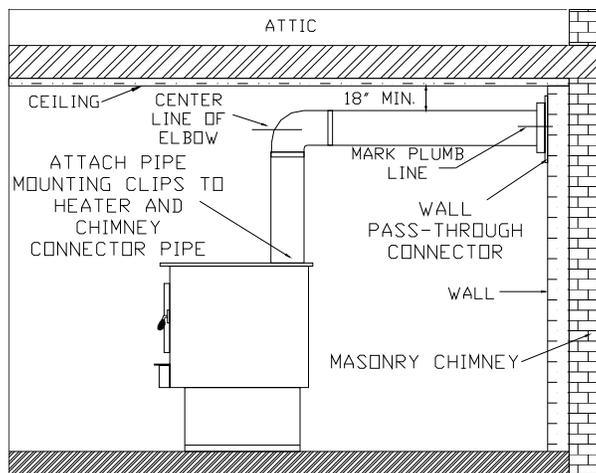

Figure 7
1. Before connecting these units to a masonry chimney, determine that masonry fireplace wall pass-through connector thimble meets **NFPA-211** Code and local building codes and is a minimum of 18" from ceiling. If connector thimble does not meet these codes, pass-through connector must be modified. (See Figure 7.)